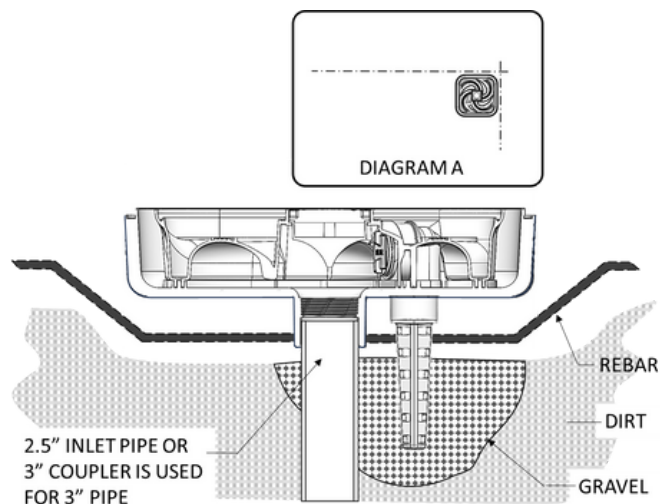

Figure 9
c. Align Hydrostatic Valve: Be certain Hydrostatic Valve Well Point is installed – be sure it is located in the area excavated for it in Step 2. (See Figure 9).
d. Glue the Drain: Glue the drain in place making certain the sides are aligned with the sides of the pool (See Figure 9; Diagram A) and the height is where it was in Step 6b.
e. HSV Backfill: Place gravel around Hydrostatic Valve Well Point. (See Figure 9).